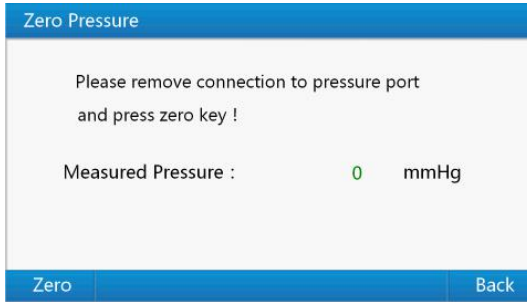

Figure 8 Zero pressure interface
2) Use up or down key in "**System Setup Menu**" to select "**Zero Pressure**", then press "**Enter Key**" to zero pressure interface shown as Figure 8.